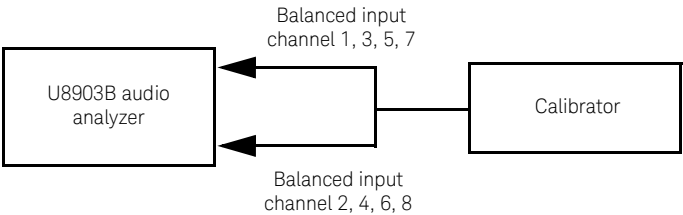

Figure 3-6 Audio generator to U8903B connection for CMRR verification
- 2 Connect the calibrator to the U8903B input channels to be tested via the Balanced connection as shown in **Figure 3-6**. Preset both the U8903B and calibrator.